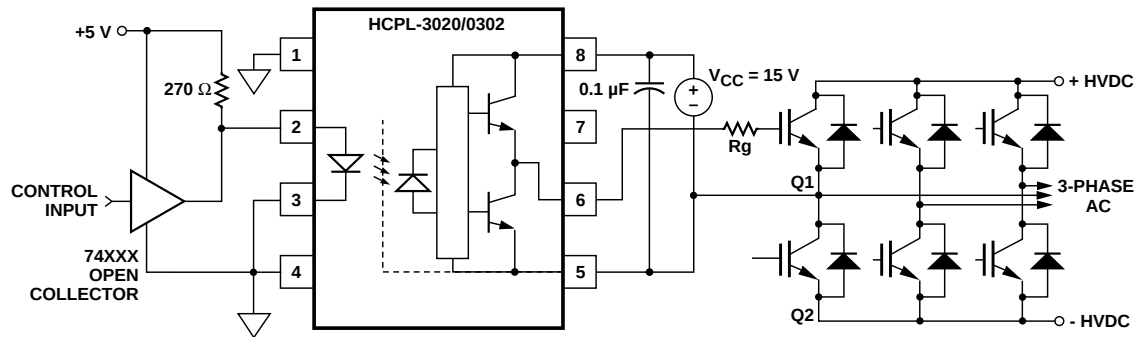
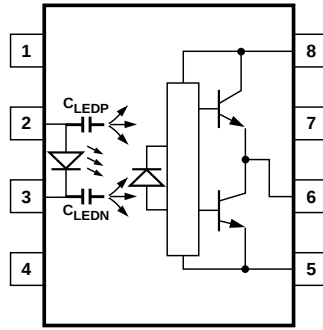
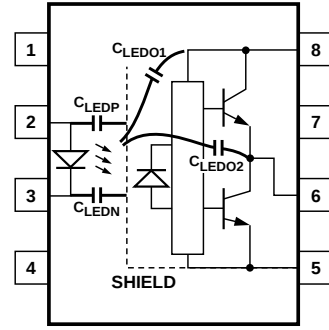

Figure 17. Recommended LED drive and application circuit for HCPL-3020 and HCPL-0302.
Figure 19. Optocoupler input to output capacitance model for unshielded optocouplers.
Figure 20. Optocoupler Input to output capacitance model for shielded optocouplers.
PC board directly above the IGBT) can eliminate the need for negative IGBT gate drive in many applications as shown in Figure 17. Care should be taken with such a PC board design to avoid routing the IGBT collector or emitter traces close to the HCPL-3020 or HCPL-0302 input as this can result in unwanted coupling of transient signals into the input
Step 1: Calculate R_g minimum from the I_{OL} peak specification. The IGBT and R_g in Figure 17 can be analyzed as a simple RC circuit with a voltage supplied by the HCPL-3020.
where $K_{ICC} \cdot Q_g \cdot f$ is the increase in I_{CC} due to switching and K_{ICC} is a constant of 0.001 mA/(nC*kHz). For the circuit in Figure 17 with I_F (worst case) = 10 mA, $R_g = 57.5 \, \Omega$, Max Duty Cycle = 80%, $Q_g = 100$ nC, $f = 20$ kHz and $T_{AMAX} = 85^\circ\text{C}$:
Without a detector shield, the dominant cause of optocoupler CMR failure is capacitive coupling from the input side of the optocoupler, through the package, to the detector IC as shown in Figure 19. The HCPL-3020 and HCPL-0302 improve CMR performance by using a detector IC with an optically transparent Faraday shield, which diverts the capacitively coupled current away from the sensitive IC circuitry. However, this shield does not eliminate the capacitive coupling between the LED and optocoupler pins 5-8 as shown in Figure 20. This capacitive coupling causes perturbations in the LED current during common mode transients and becomes the major source of CMR failures for a shielded optocoupler. The main design objective of a high CMR LED drive circuit becomes keeping the LED in the proper state (on or off) during common mode transients. For example, the recommended application circuit (Figure 17), can achieve $10 \text{ kV}/\mu\text{s}$ CMR while minimizing component complexity.
supplied by the LED, and it is not recommended for applications requiring ultra high CMR_1 performance. The alternative drive circuit, which likes the recommended application circuit (Figure 17), does achieve ultra high CMR performance by shunting the LED in the off state.